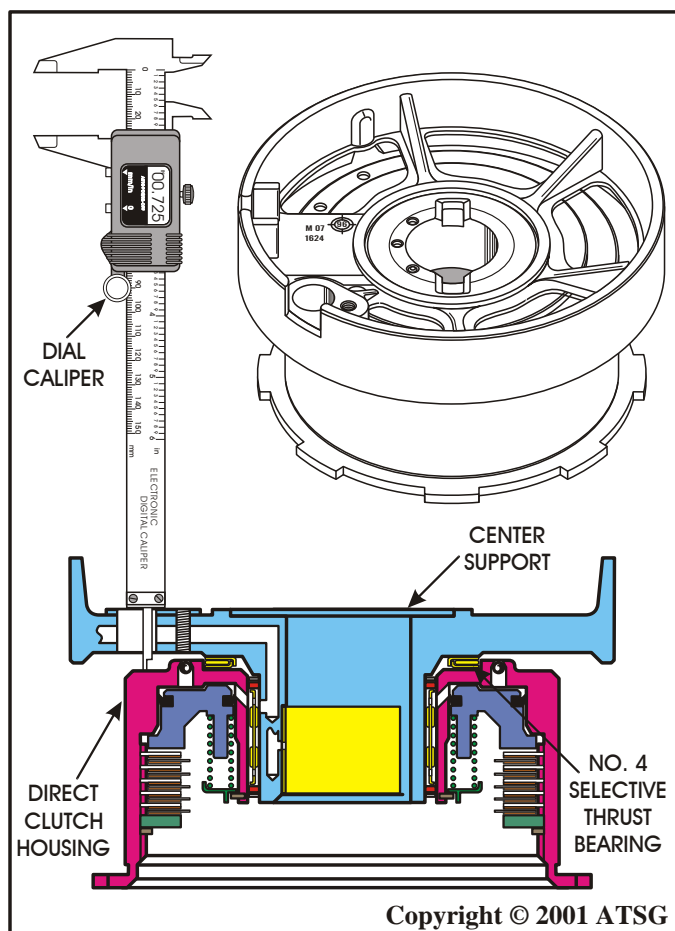

Figure 152
33. Assemble the selective bearing, direct clutch housing and center support, **on the bench**, as shown in Figure 152.
34. Measure with a dial caliper through the speed sensor hole down to the surface of the direct clutch housing, as shown in Figure 152, and **record this as dimension "A"**.